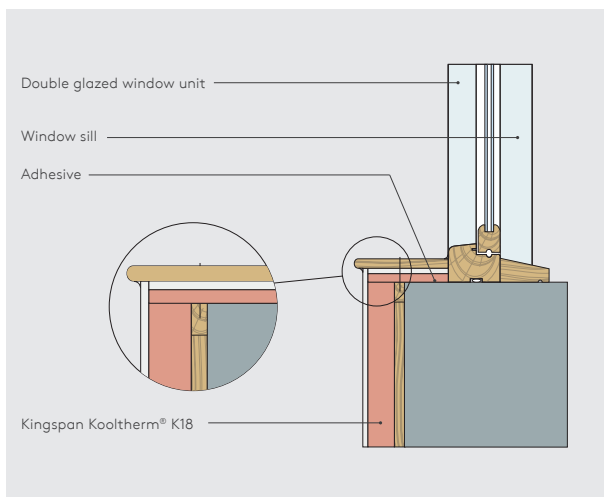

Figure 8 - Insulated reveal and external corner
- The packer should be replaced with a flexible / sealant or equivalent (for 5 mm gaps), or with a combination of flexible polyurethane foam and flexible sealant or equivalent (for 15 mm gaps) (see Figure 8).